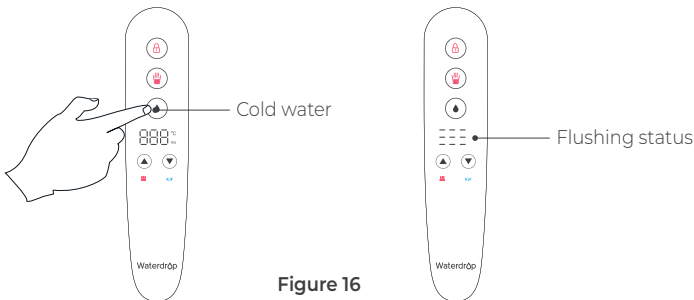

Figure 16
- Turn on the faucet and flush for 10 minutes.** Touch the key  and turn on the faucet. The system starts flushing for 10 minutes until there is no water output from the faucet (**Figure 16**).